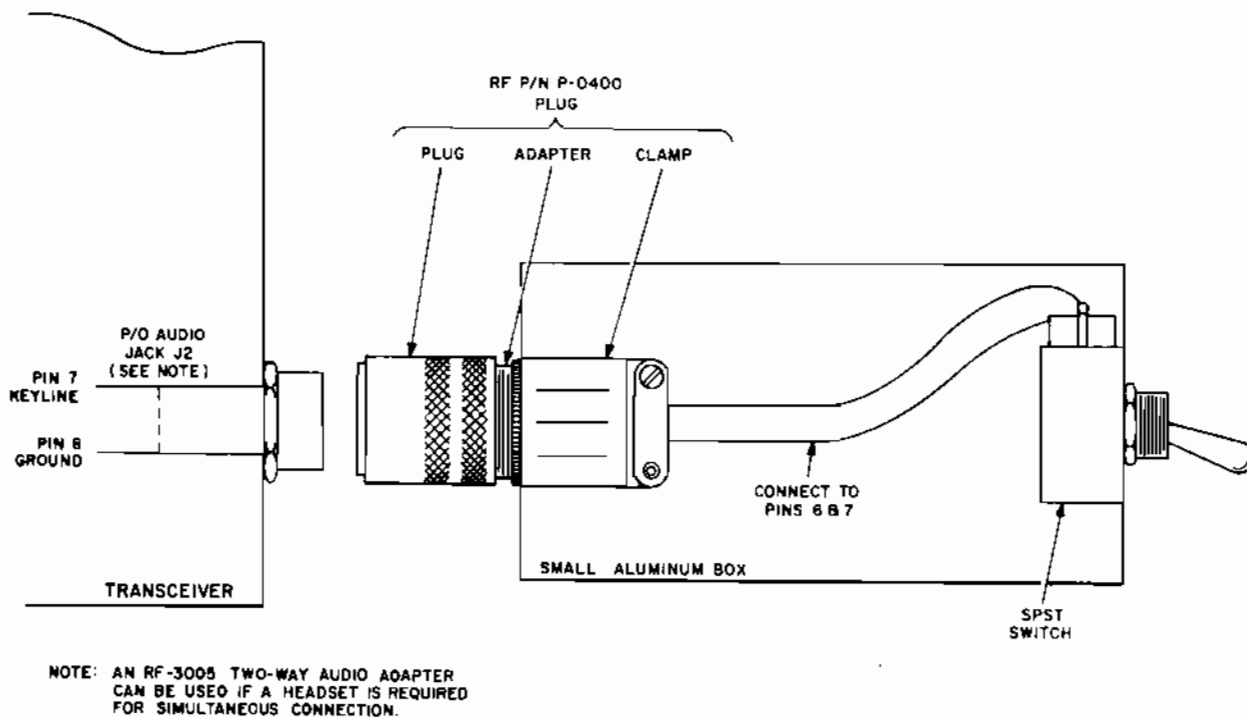

FIGURE 6.3 - FABRICATED KEYING TEST FIXTURE
l. Fabricated keying text fixture – refer to figure 6.3;